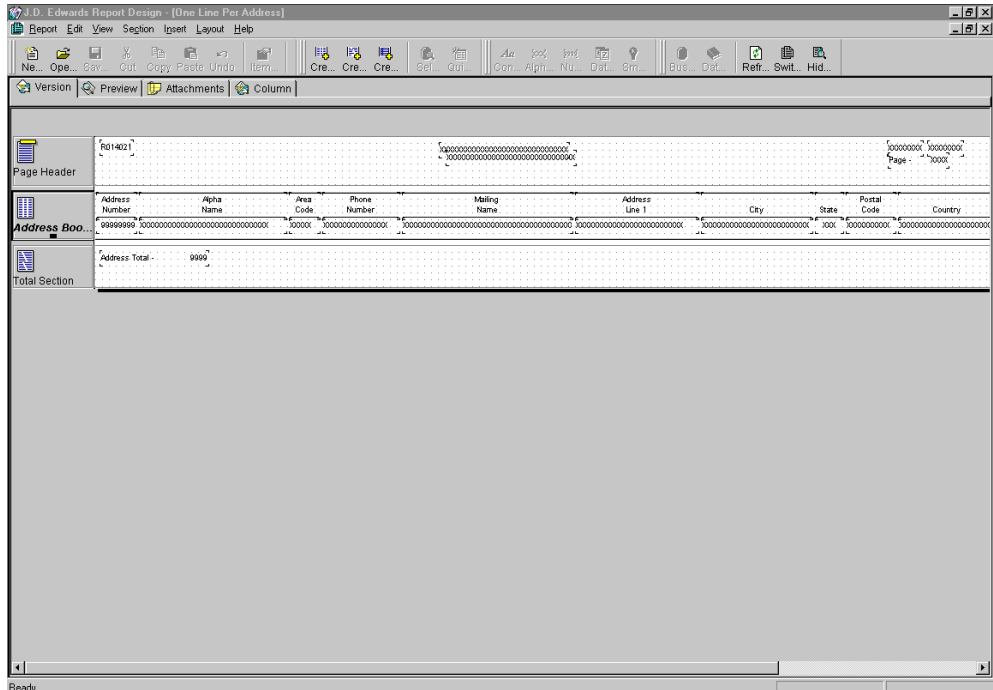

Figure 202. Report Design display
7. From the Row menu at the Advanced Operations display, select **Design Version**. Report Design opens with the report specifications for the version as can be seen in Figure 202 on page 410.